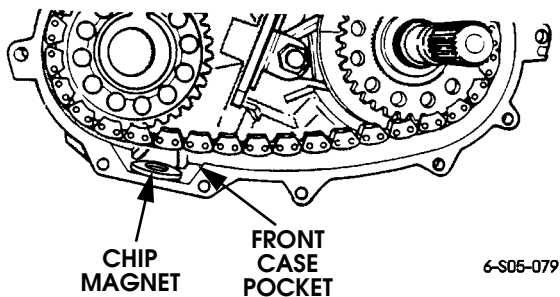

Figure 5-164: Chip Magnet Installation
- 31. Install magnet in front case pocket (Figure 5-164).